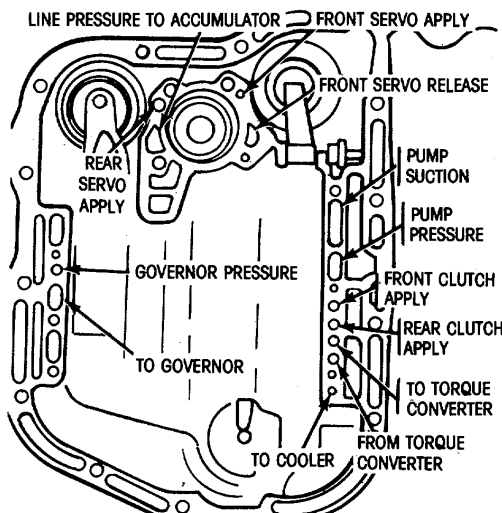

Figure 5-20. Air Pressure Test Locations
**5-187. AIR PRESSURE TESTS.** A "No Drive" condition might exist even with correct fluid pressure, because of inoperative clutches or bands. The inoperative units, clutches, bands and servos can be located through a series of tests by substituting air pressure for the fluid pressure (figure 5-20). The front and rear clutches, kickdown servo, and low-reverse servo may be tested by applying air pressure to their respective passage after the control valve assembly has been removed. To make the air pressure tests, proceed as follows: